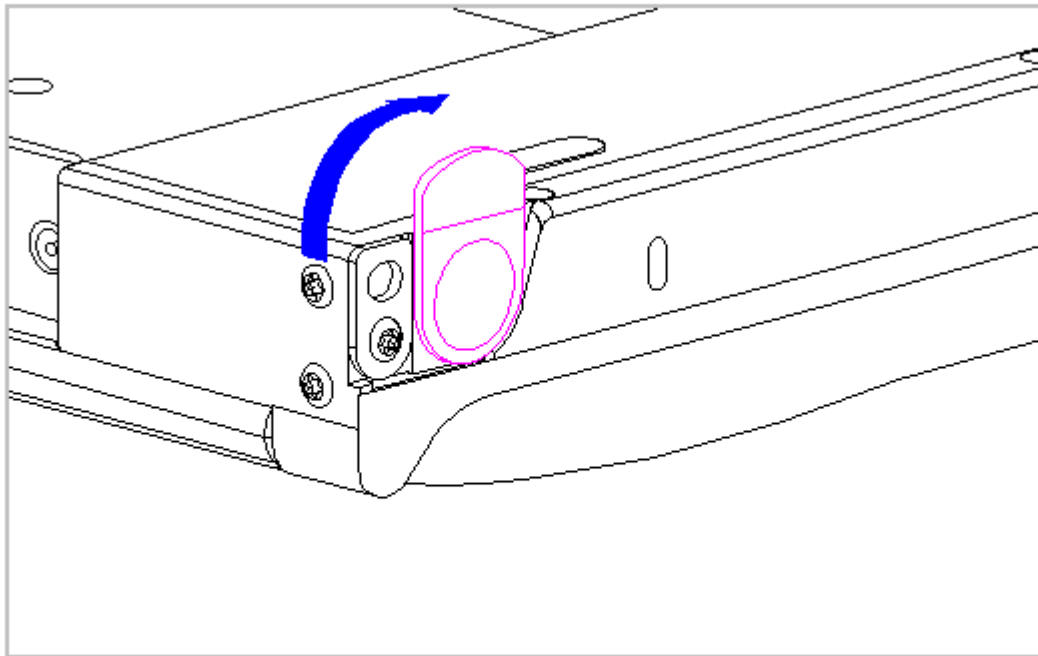

Figure 5-7. Positioning the Tilt Foot
3. Move the tilt foot toward the front of the computer, exposing the handle bracket screw on either side of the computer (Figure 5-7).